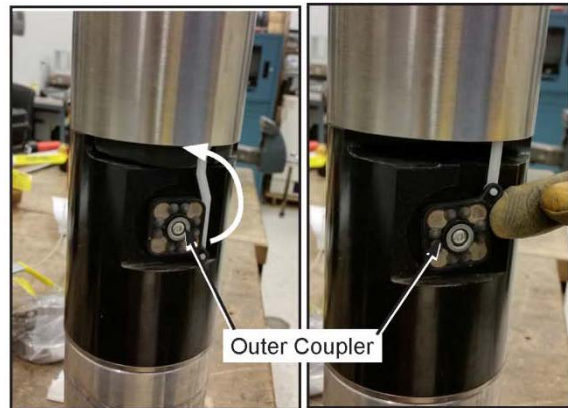

Figure 10: Outer Coupler, Lowered and Raised
2. Check the float and flapper mechanism by rotating the outer coupler (counter-clockwise). This should activate the internal flapper and operate smoothly. (Figure 10)